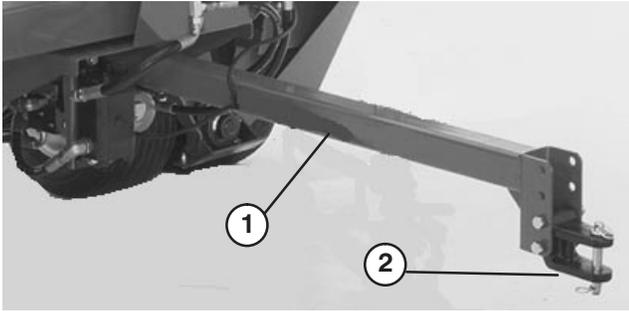

Figure 1
INSTALL TONGUE (Fig. 1 & 2)
1. Install tongue into topdresser receiving tube and secure each end with a clevis pin and (2) lynch pins (Fig. 1).
INSTALL TONGUE HITCH (Fig. 1)